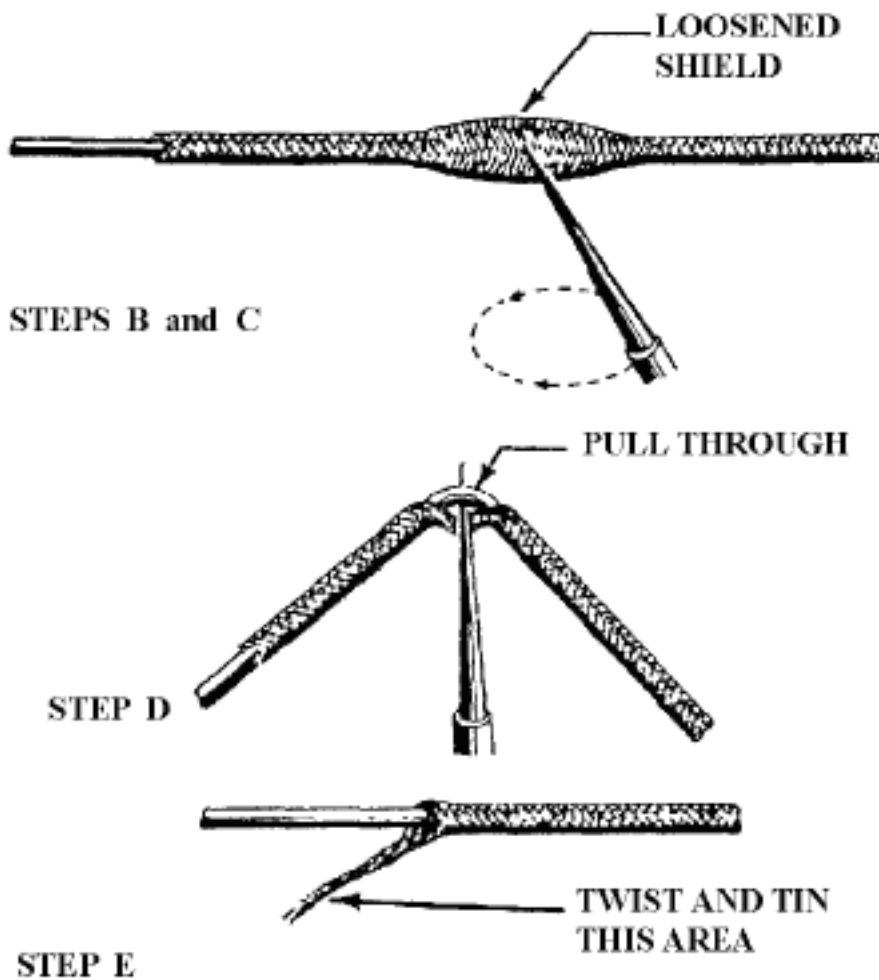

Figure 30. Pigtail Method of Forming Shield Termination
60. When grounding sheath connectors and tools are not available, terminate shield for grounding by making a pigtail as follows (Figure 30):